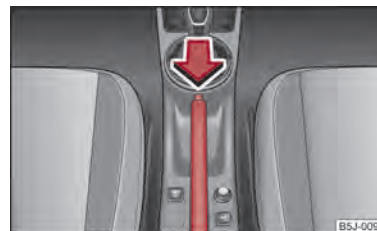

Fig. 80 Centre console: Handbrake
- Pull the handbrake lever up slightly and **at the same time** press in the locking button ⇒ fig. 80.